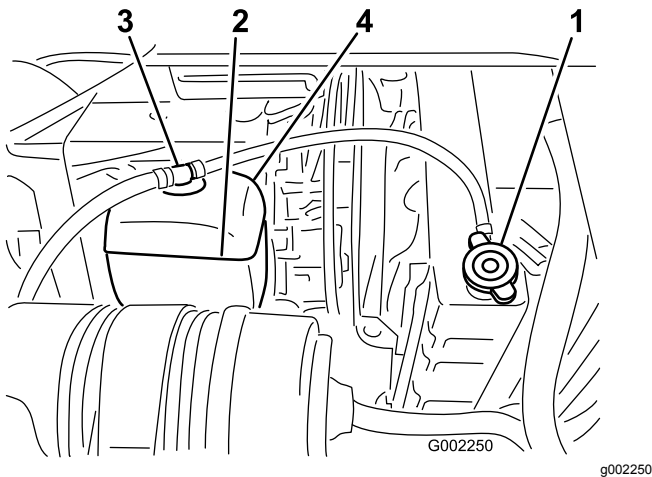

Figure 54
3. Carefully remove the radiator cap and the expansion tank cap (Figure 54).